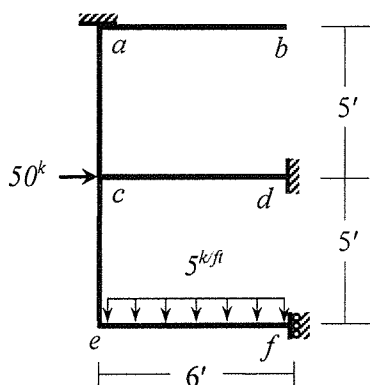

Fig.4
- Use Stiffness Method considering geometric nonlinearity and flexural deformations only to calculate the unknown deflection at joint **f** and rotations at joints **c** and **e** of the frame **abcdef** loaded as shown in **Fig.4** [Given: $EI = 50 \times 10^3 \text{ k-ft}^2$].